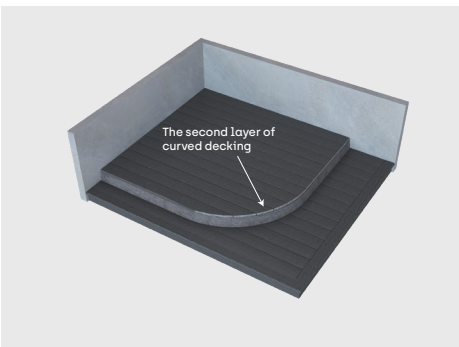

Figure 3-4
- 3. Install the second-layer curved decking, as shown in Figure 3-4.